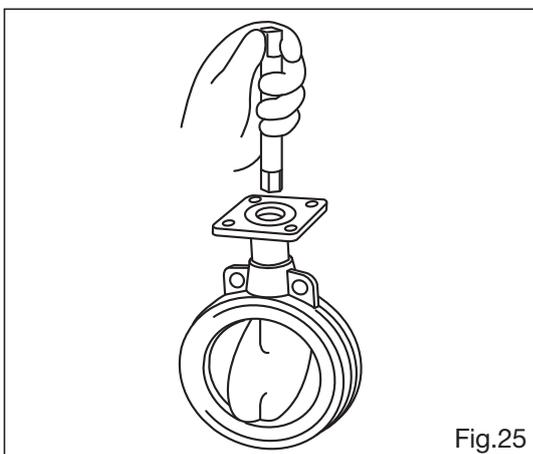

Fig.25
Center the disc ② and the upper shaft hole of the body. Insert the upper shaft ④ and connect the bushing ⑥. (Fig.25)